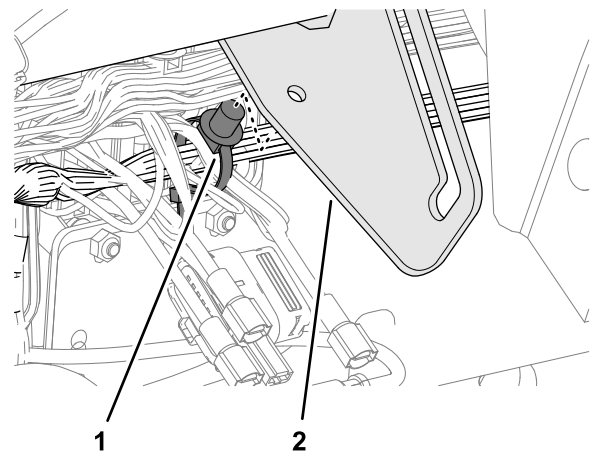

Figure 86
1. Remove the push-in fastener that secures the wire harness of the machine to the prop-rod bracket (Figure 86).